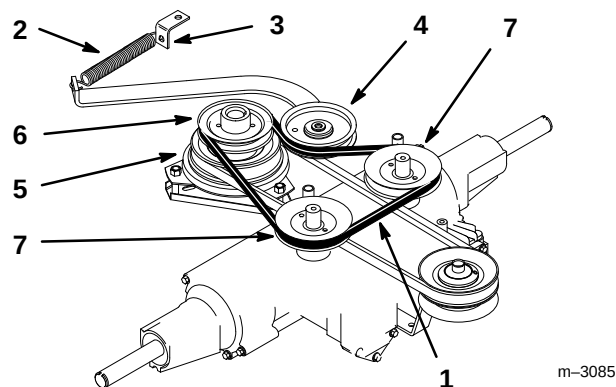

Figure 31
4. Unhook idler spring from frame tab (Fig. 31).
5. Move idler pulley sideways and remove traction belt from the engine and hydro pump pulleys (Fig. 31). Remove belt over clutch.
6. Install new belt over clutch and around engine and hydro pump pulleys (Fig. 31).
7. Move idler into belt and hook idler spring onto frame tab (Fig. 31).